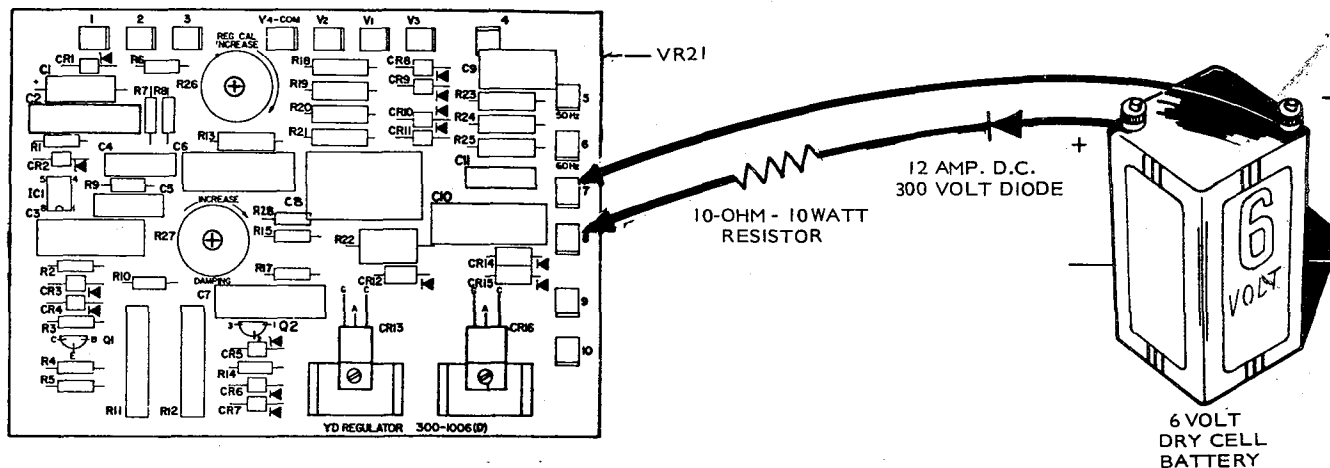

FIGURE 8. FLASHING THE FIELD
2. Use a six volt dry cell battery with two clip leads, a 12 amp DC, 300 volt avalanche diode, and a 10-ohm resistor as shown in Figure 8. If a six volt battery is not available, a 12 volt automotive battery can be used by increasing the 10-ohm resistance to 20-ohms; or a 24 volt automotive battery can be used by increasing the resistance to 40-ohms.